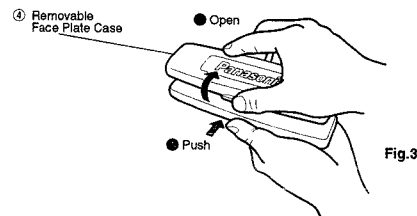

Fig. 3
- ④ As shown in Fig.3, gently push the lower side of the case and open its cover. Keep the removable face plate in the case. Then, you can bring the plate safely.